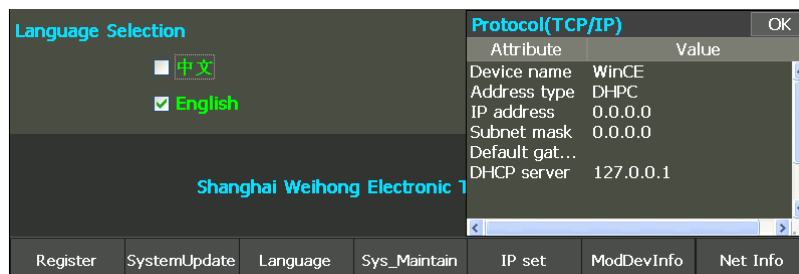

Fig. 3-58 System Info screen- Net Info
- 2) Click “Net Info” to display network info, as shown in Fig. 3-58;